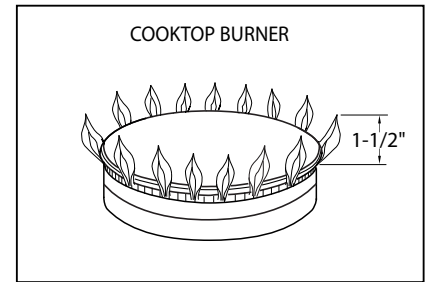

FIG. 17
*No air shutter adjustment is possible on the cooktop burners. Burner flames should be blue and stable with no yellow-tipping (some yellow-tipping is normal with LP gas), excessive noise, or lifting of flame from the burner (Fig. 17).*